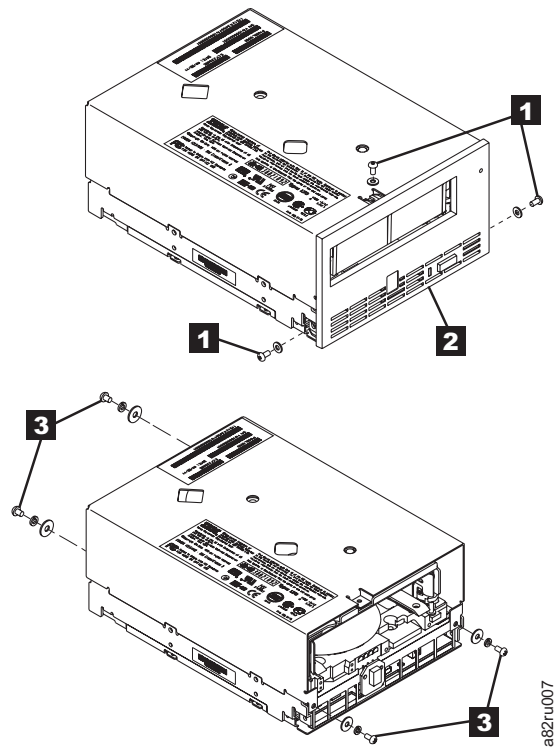

Figure 30. Removing the cover from the internal drive
- a. Using a Phillips screwdriver, remove the three screws and washers (see **1** in Figure 30) that secure the bezel **2** to the internal drive, then remove the bezel.